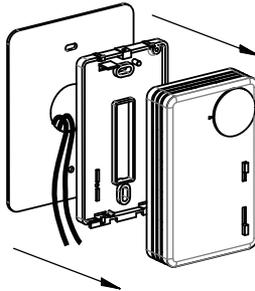

Figure 6.
2. Remove the cover of old thermostat (see Fig. 6).